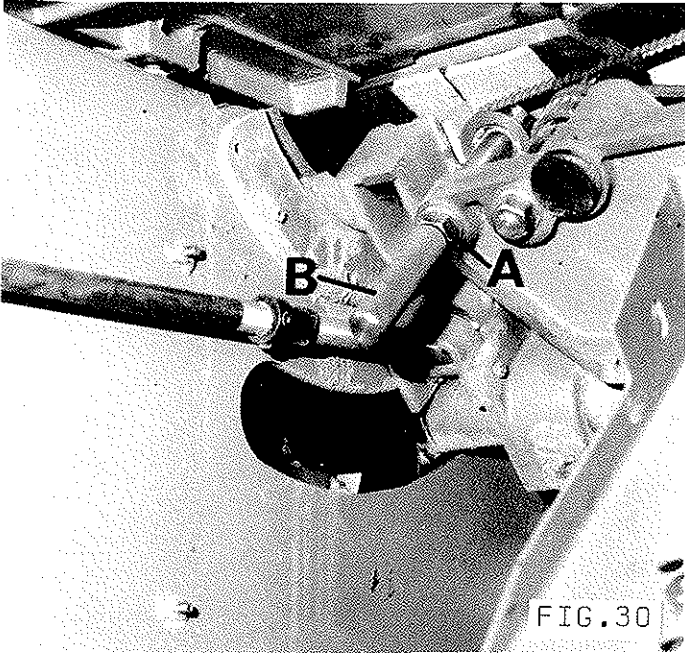

FIG. 30
- 6) Release belt tension from inside of machine by loosening locknut 'A' with spanner (supplied) FIG.30 and turning handle 'B' clockwise.